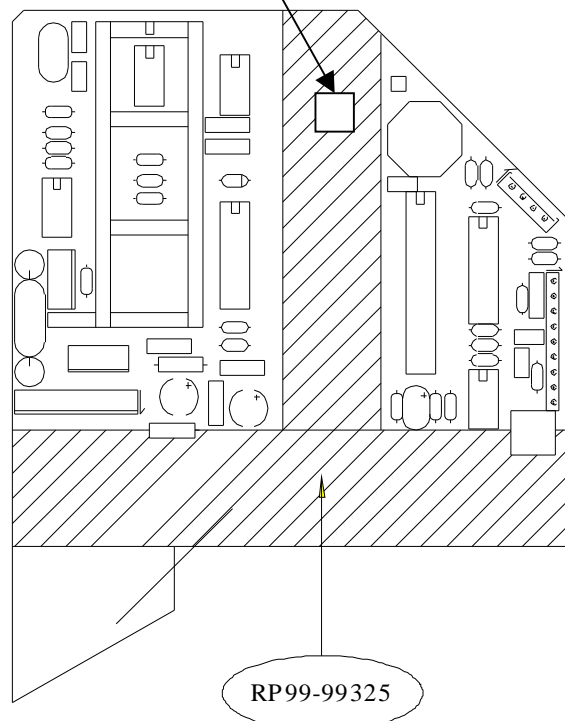

FIG 21
3. Ensure when re-assembling that the serial number label is removed from the P.C.B and re attached to the top of the mainframe. The insulation tape must be fitted to the P.C.B with 7mm cut out to clear solder earth pad (as per fig 21) and blue tube to transducer is reconnected from mainframe assembly with brass restrictior.